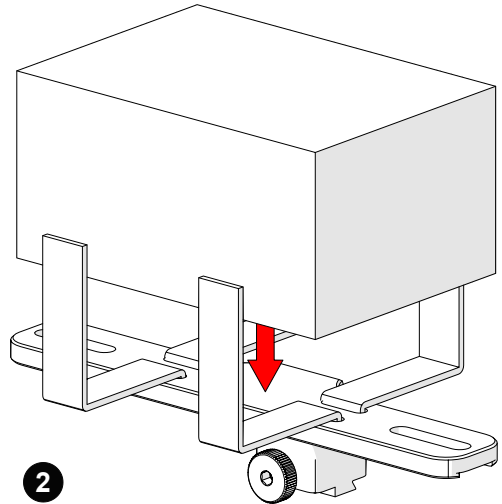

Fig. 102 - Place preamp and wrap velcro
2. Centre and place the preamp on the bracket wrapping the velcro around the preamp (Fig. 102).